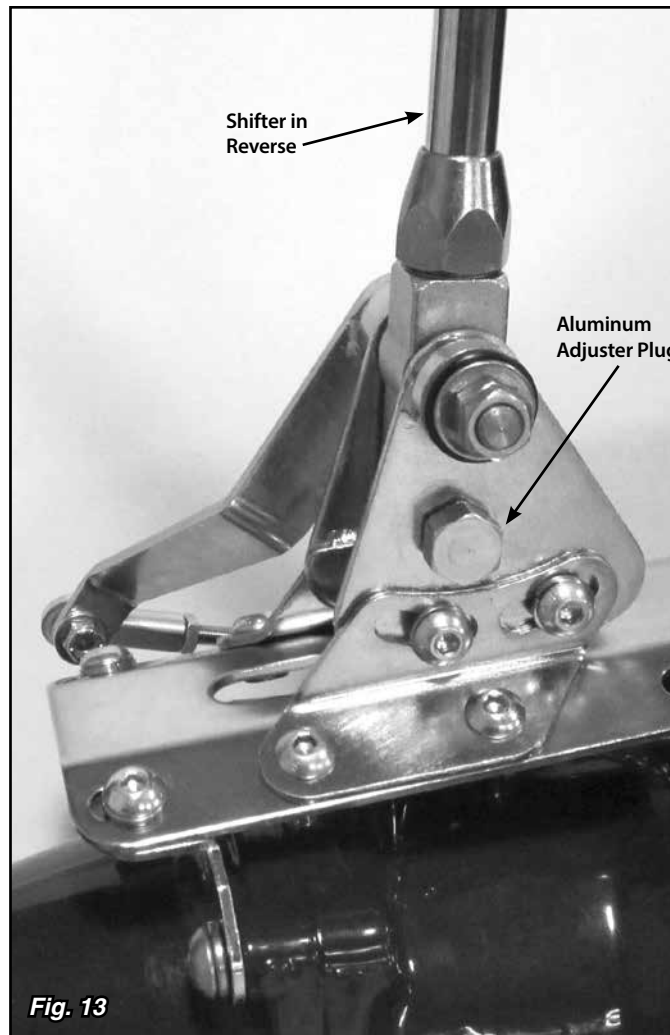

Fig. 13
Step 19: Put the shifter lever into the Reverse position. Reposition the switch plate so that the hole in the switch plate lines up with the center groove in the shifter body. **Fig. 12** Screw the provided aluminum adjuster plug into the neutral safety switch opening. Wiggling the switch plate slightly forward and back while you are screwing the aluminum adjuster plug in will help get the shifter body centered on the adjuster plug. **Fig. 13**
- **If there are (2) connections for a neutral safety switch**, run a #12 (or heavier) stranded wire from these terminals in your fuse panel to the (2) terminals on the neutral safety switch. That completes the Neutral Safety Switch wiring.